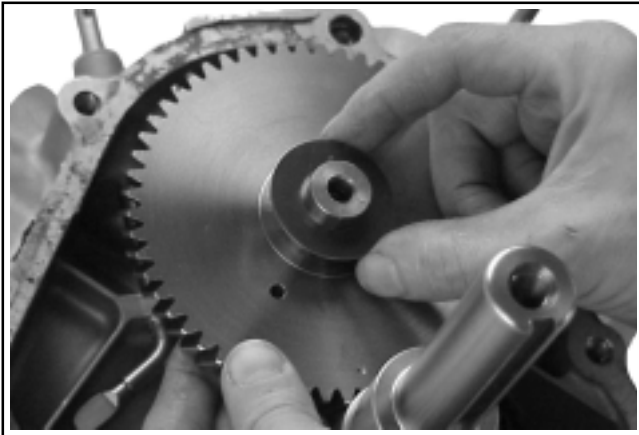

Figure 9-74. Removing Camshaft and Shim.
1. Remove the camshaft and shim. See Figure 9-74.